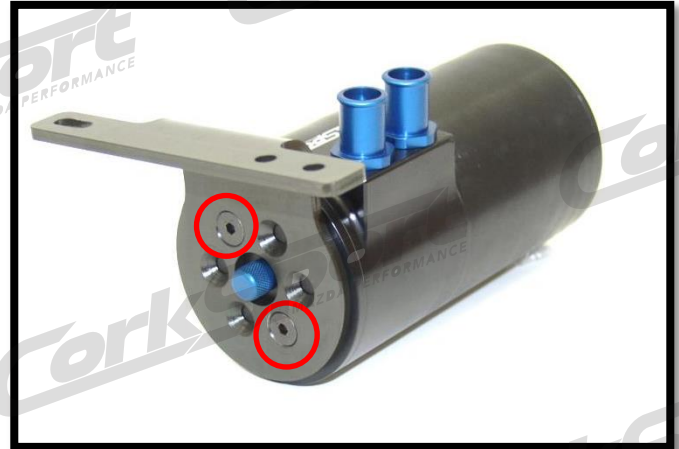

Figure 2c
- c) Attach the bracket to the catch can (as shown in Figure 2c) using the supplied ¼"-20 screws.
- c) **Attach the bracket to the catch can** (as shown in **Figure 2c**) using the supplied ¼-20 counter-sunk screws.